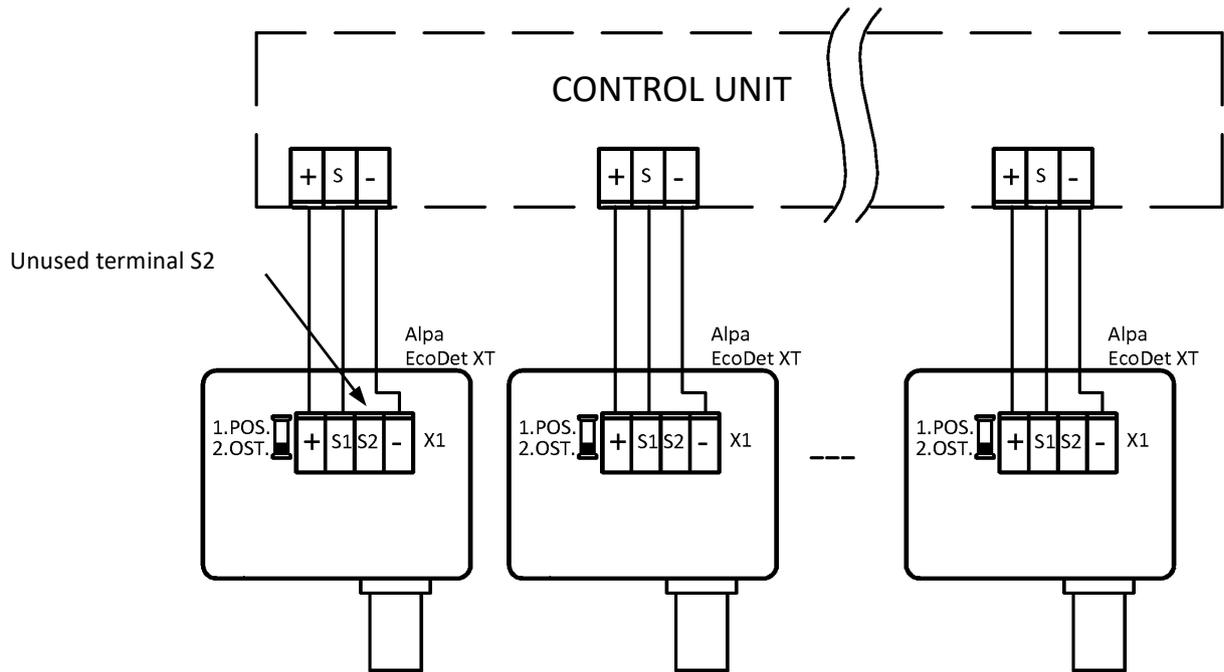

Figure 11: Connection of gas detectors Alpa EcoDet XT according to the star layout
- ✓* Connect the input port of the first detector to an interconnecting cable leading to a control unit. Set the configuration switch of the detector to the 'OST' position (the last detector in a chain) – see Figure 11.